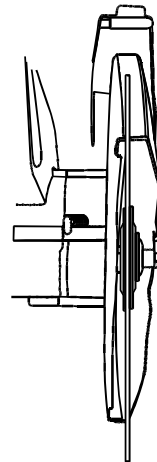

Figure 4
2. Lift the disc guard fully upward until it will stay in the upright position. (Figure 4)